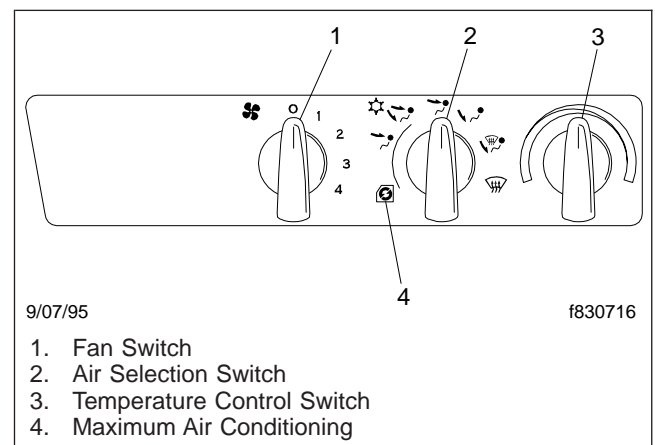
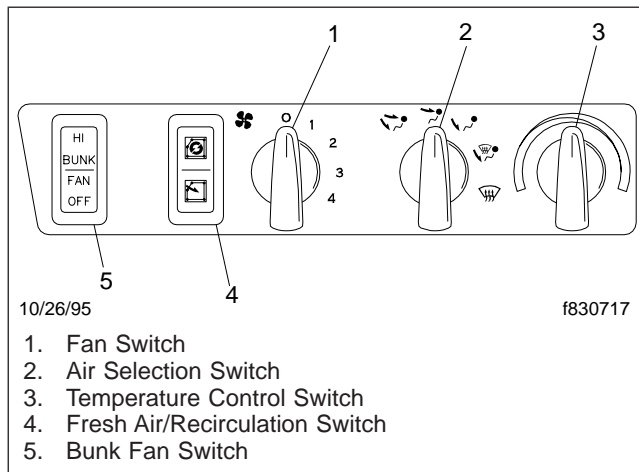

Fig. 4.6, Climate Control Panel, Heater and Air Conditioning
Fig. 4.7, Climate Control Panel, Heater Only
The cab climate control panel allows you to control all of the heating, air conditioning, defrosting, and ventilating functions. See Fig. 4.6 or Fig. 4.7.
A fresh air/recirculation switch is standard equipment when there is no air conditioning. See Fig. 4.7. This control is an option when air conditioning is ordered. It allows the cab to be ventilated with either fresh or recirculated air. When the air selection switch is rotated to the maximum air conditioning position, the system uses *only* recirculated air, regardless of
whether fresh or recirculated air has been selected. See Fig. 4.6.
The fan bunk switch on the cab climate control panel overrides the sleeper climate control panel. See Fig. 4.7. For increased ventilation in the sleeper, put the switch in the HI position. For normal fan and temperature operation, put the switch in the middle position. To turn the fan in the sleeper off, put the switch in the OFF position.
1. Move the fresh air/recirculation switch to the fresh air position. Move the air selection switch to the desired position. See Fig. 4.7.
1. With the engine at operating temperature, set the bunk fan switch on the cab climate control panel to the middle position. See Fig. 4.7.
1. Turn on the cab air conditioner (refer to "Air Conditioning") and set the bunk fan switch on the cab climate control panel to the middle position. See **Fig. 4.7**.